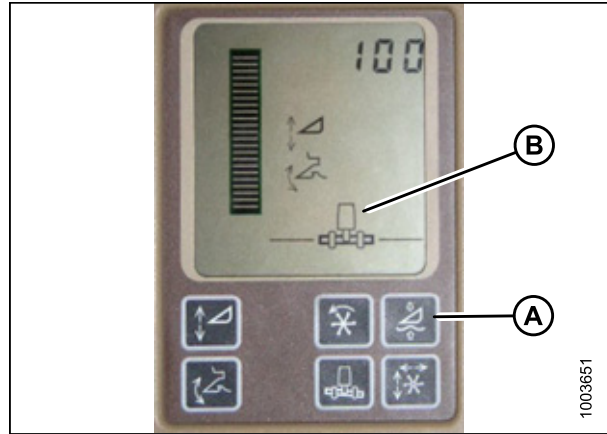

Figure 6.120: John Deere Combine Display
Do **NOT** use the active header float function (A) in combination with the MacDon auto header height control (AHHC)—the two systems will counteract one another. The header symbol (B) on the display should NOT have a wavy line under it and should appear exactly as shown on the Active Header Control Display in Figure 6.120: *John Deere Combine Display*, page 200.